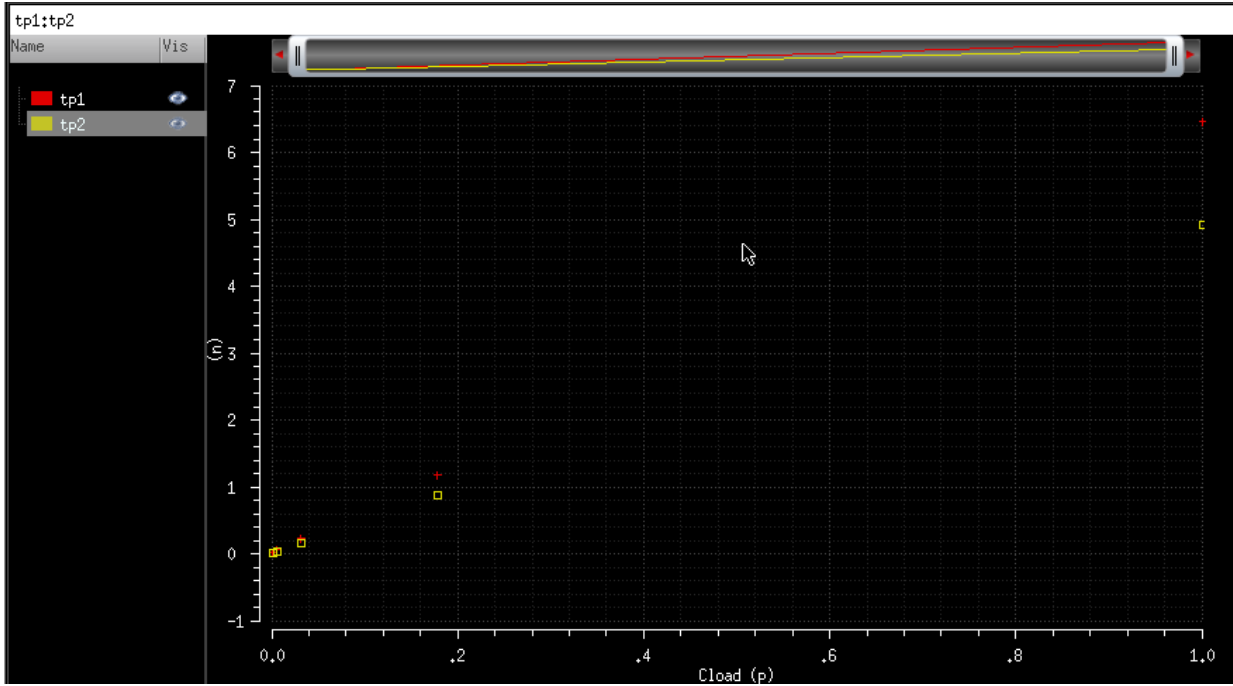

Figure 28 Plot single points from parametric simulation results
2. The delay functions are plotted as straight lines connecting the actual computed points. You can visualize the single points by clicking on the plotted lines twice and select points/Solid/Fine in the Type/Style field. The result should look as in Figure 28